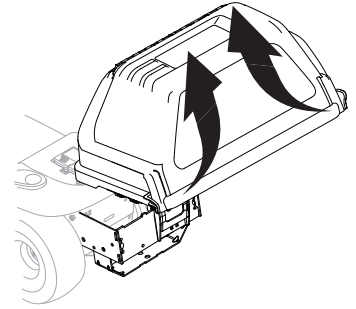

Figure 26
2. Open the grass catcher cover by pushing in on the rear, right-side tab and rear left-side tab, as seen in Figure 26, and lifting the cover from the rear of the bagger cover. Do not remove the hose assembly from the tractor.